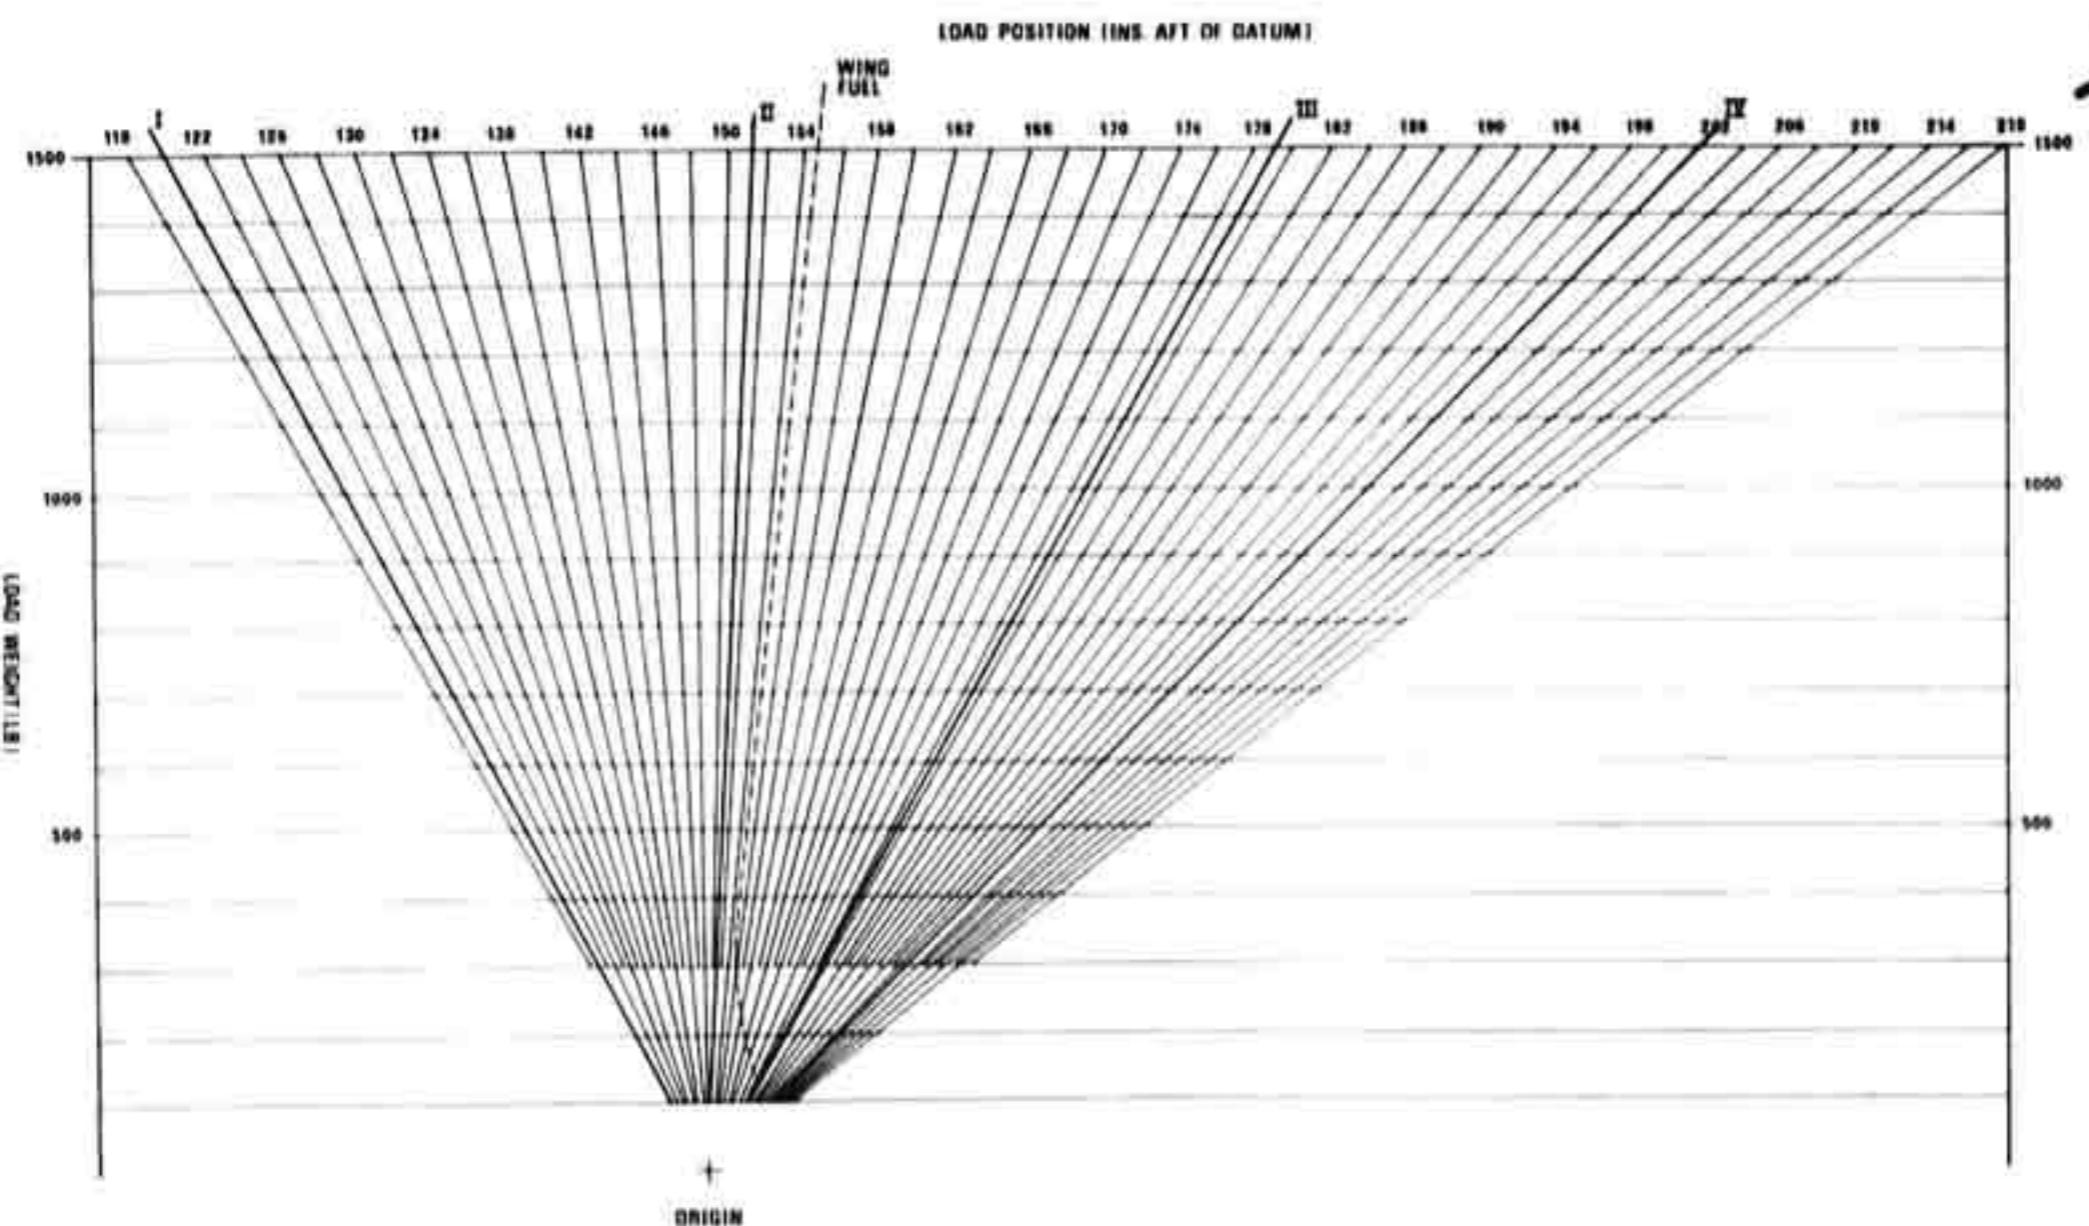

FIG 5-6
Reference to Loading and Balance summary (AAP 7211.001-5) and Weight and Balance Charts (Fig. 5-5 and Fig. 5-6) will provide the pilot with the necessary information on CG limits.
515. Weight Limitations Charts. The Weight and Centre of Gravity Limitations are shown on page 5-8 of this section and on the Aircraft Loading Chart. (Refer Fig. 5-6). These charts are intended for use in pre-flight planning where weight and CG vary considerably depending on the requirements of the operation.
Fig. 5-5 may be on a transparent sheet so that it can be used as an overlay to Fig. 5-6.
2. Place Fig. 5-5 on Fig. 5-6 so that point (a) is superimposed on origin and align sheets so that horizontal (weight) lines are parallel.
3. Plot fuel weight from Fig. 5-6 onto Fig. 5-5 (wing tank fuel only).